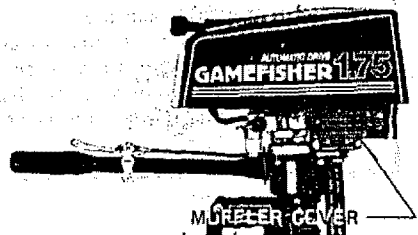

Figure 3
a. Periodically remove muffler cover by unscrewing screws and inspect for carbon build-up inside the muffler inlet and outlet, the exhaust port and the combustion chamber of the cylinder. Excessive carbon will prevent drawing the maximum power out of the engine. (See Figure 3).